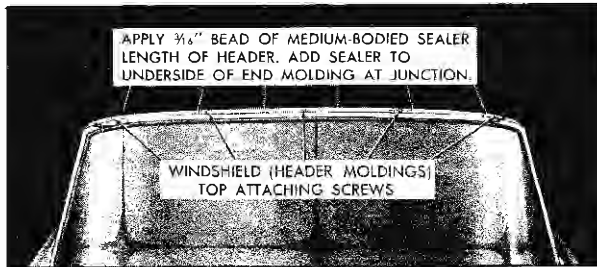

Fig. 11-6 Windshield Header Molding—"67" Style
5. To install, on convertible styles, apply a 3/16" bead of medium-bodied sealer the entire length of the windshield header before installing the header moldings. Apply additional sealer to the underside of end moldings to insure watertight seal to the junction of the center molding (Fig. 11-6). Clean off excess sealer and reverse removal procedure.